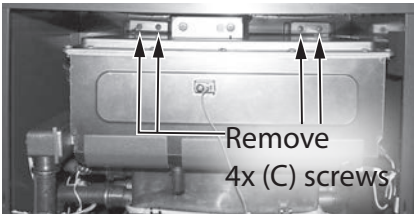

Figure 154 - Removing secondary HEX (C) screws
- 46 Locate the two brackets and four (C) screws securing the secondary heat exchanger assembly to the backside of the water heater cabinet as shown in Figure 154. Use a 12" magnetized Phillips screwdriver to remove the screws. Place them aside in a safe place for reinstallation.
74 Locate the four secondary heat exchanger mounting screws previously removed in **Step 46**. Use a 12" magnetized Phillips screwdriver and four screws to secure the heat exchanger to the water heater cabinet. See Figure 154.